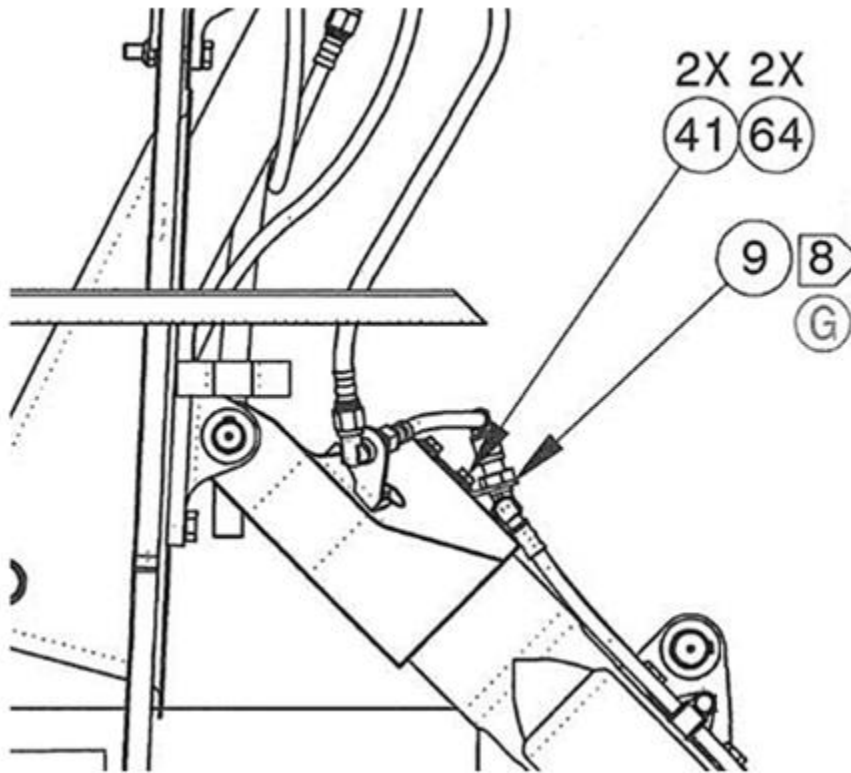

Figure 3: 65-45168 Bracket Installation: AN3H3A Bolts and NAS1149D0363K Washers
5. Install 65-5168 Bracket as shown in Figure 3.